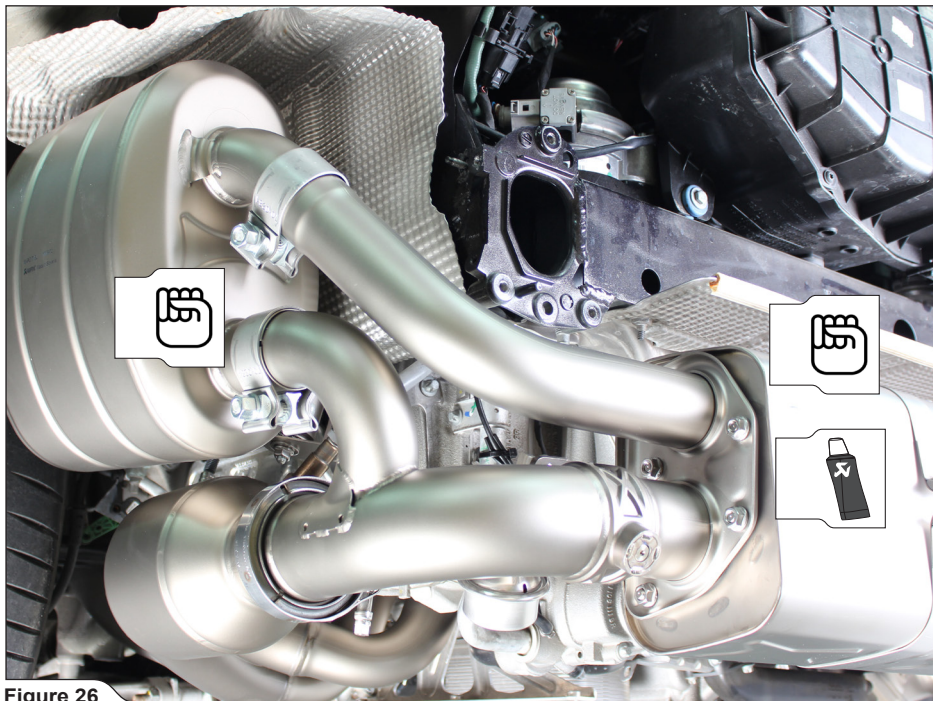

Figure 26
13. Correctly position and install left side muffler and simultaneously insert both link pipes into the central muffler's inlets. Hand tighten the nuts only (**Figure 26**).